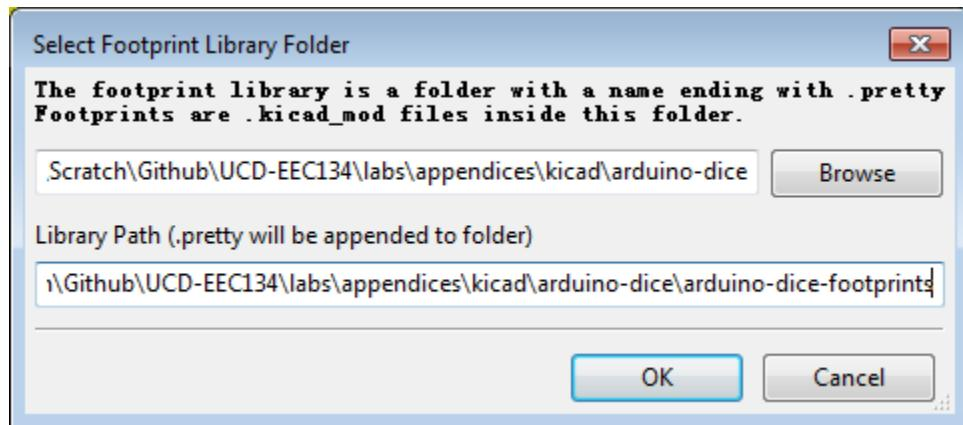
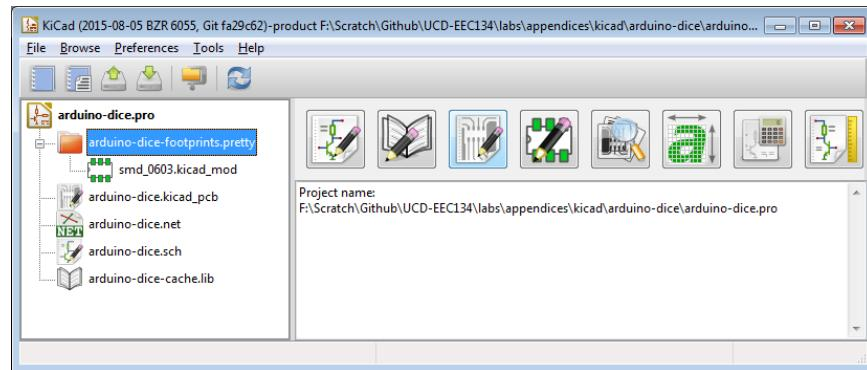

Figure 15: The “Select Footprint Library Folder” dialog box.
Figure 16: The new footprint library is now visible in the project tree.
10. We wish to create a new library to contain our newly created footprint. To do this, click the “Create new library and save current module” icon. Set the location and name of the library and click “OK”. The “Library Path” field should contain the full path to your desired library location. In this example, we will create a footprint library with the name “arduino-dice-footprints” (KiCad will automatically add the “.pretty” suffix) under the project folder “...\\arduino-dice”. Fig. 15 shows the proper settings. At this point, a new folder named “arduino-dice-footprints.pretty” should appear in the project tree in the KiCad main window (Fig. 16). Click on the “+” sign will expand the library and show all the footprints in this library; in this case, we only have the “smd\_0603” footprint.